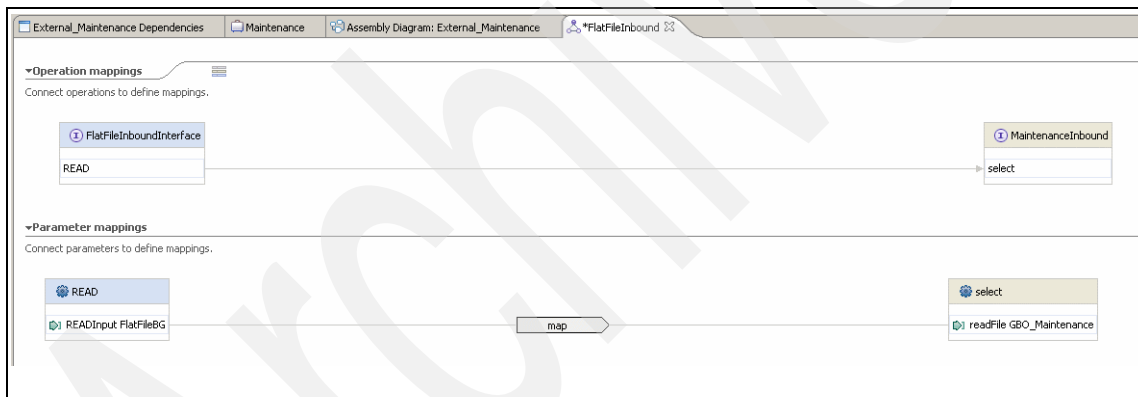

Figure 3-14 Select mapping type
7. Select the mapping type of **map** from the General tab in the Properties view (Figure 3-14).